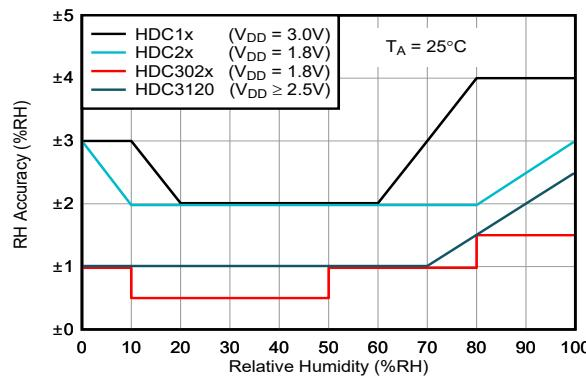
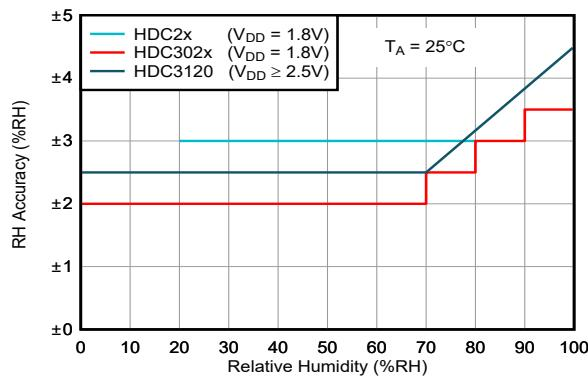
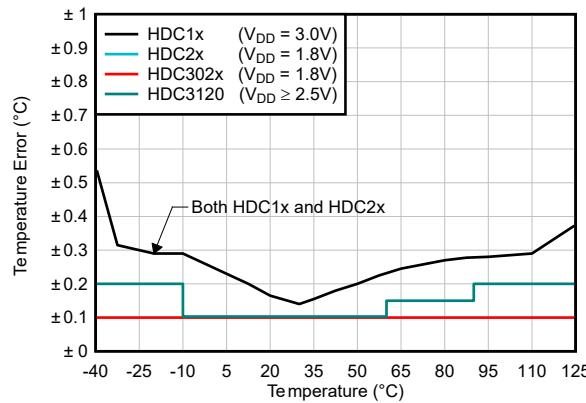
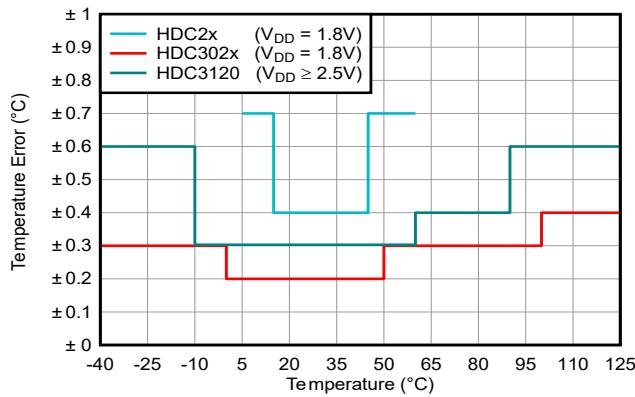

Figure 5. Typical %RH Accuracy
Figure 6. Maximum %RH Accuracy
Figure 7. Typical Temperature Accuracy
Figure 8. Maximum Temperature Accuracy
The typical Relative Humidity (RH) performance for all featured sensors is shown in Figure 5, and the maximum RH performance is shown in Figure 6. Typical temperature accuracy performance for TI humidity sensors is presented in Figure 7, while Figure 8 shows the maximum temperature accuracy performance.